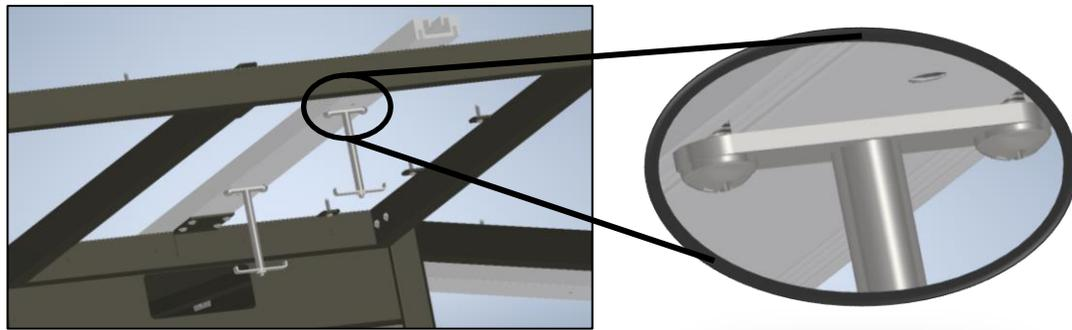

Figure 7
4. Attach the wire management basket centered to the bottom of the aluminum rail using the  $\frac{1}{4}$ -20 x  $\frac{1}{2}$ " machine screws provided. Repeat for each side (Figure 7 & 8)